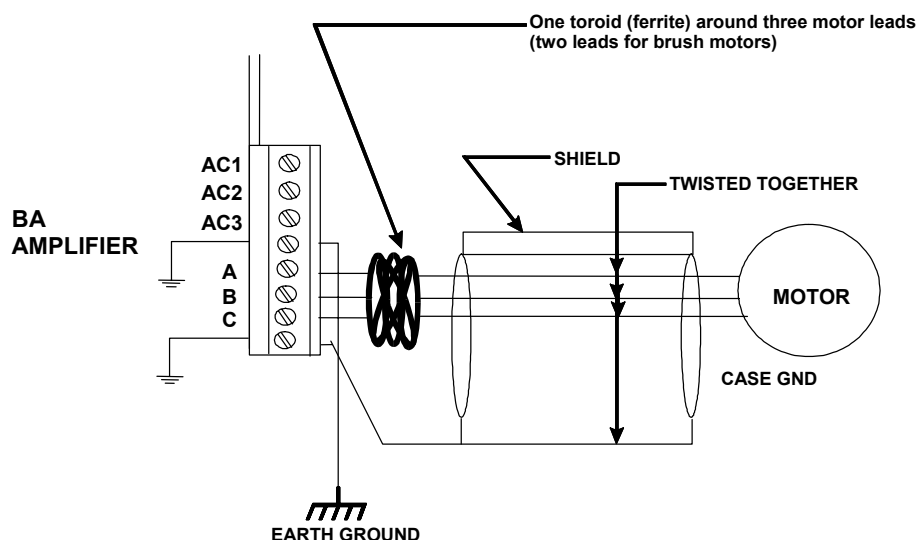

Figure 2-2. Wiring to Minimize EMI and Capacitive Coupling
The switching time between positive and negative rails on each of the motor leads is less than 50 nano-seconds for a 320 VDC bus. This switching rate can generate Electromagnetic Interference (EMI) into the MHz band. To minimize this EMI, it is recommended that the motor leads be twisted together with the motor cable grounding wire and surrounded with a foil shield. Refer to Figure 2-2.
1. Use shielded cable to carry the motor current and tie the shield to earth ground. Refer to Figure 2-2.